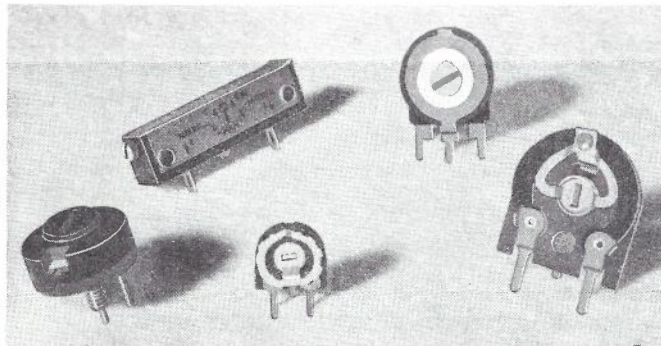

FIG. 10. VARIOUS TRIMMER RESISTORS.
- TRIMMER RESISTORS. The devices shown in Fig. 10 represent only a small range of trimmer resistor shapes. Adjustment may be made by knob or screwdriver. On some trimmers the terminals are designated by a symbol marked on, or moulded into, the case.